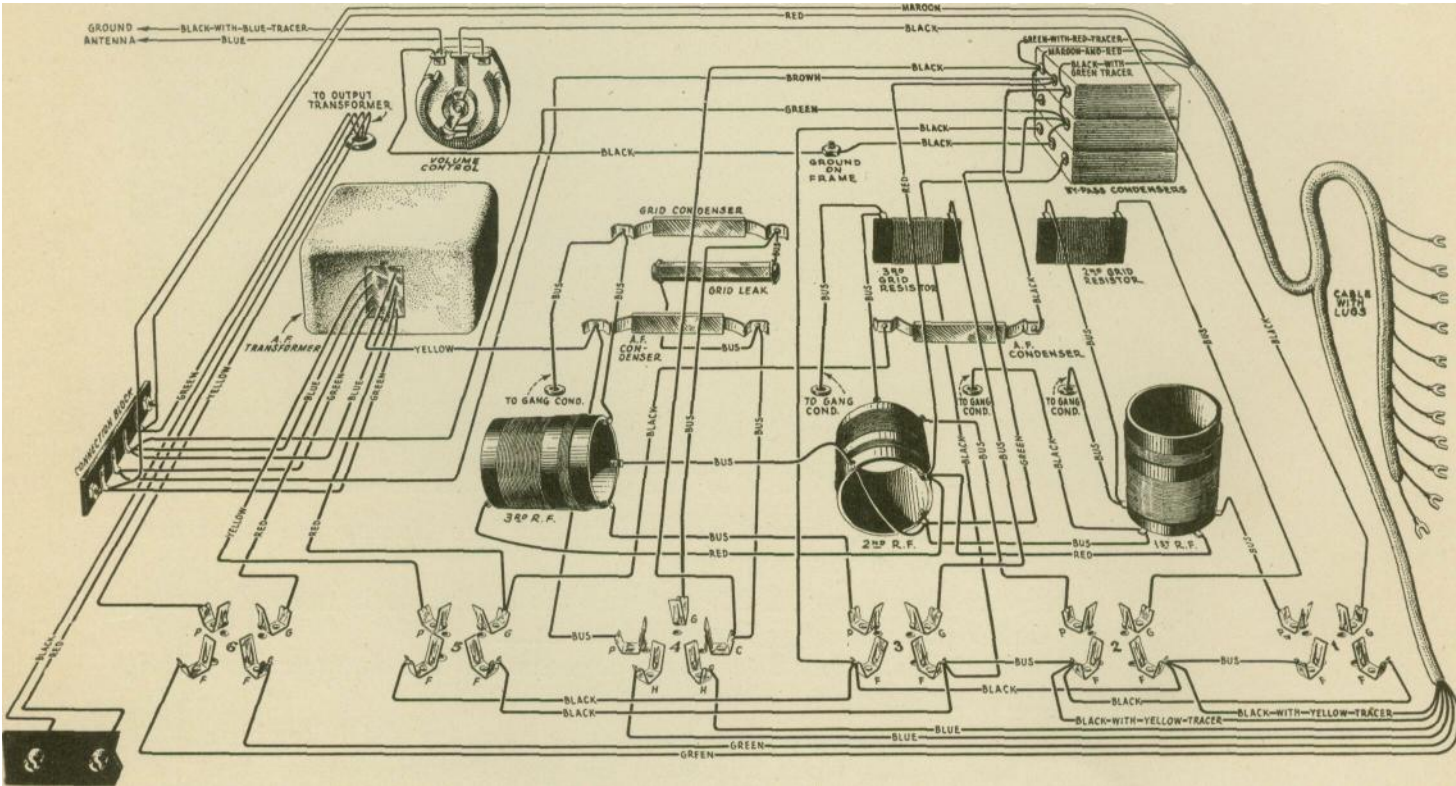
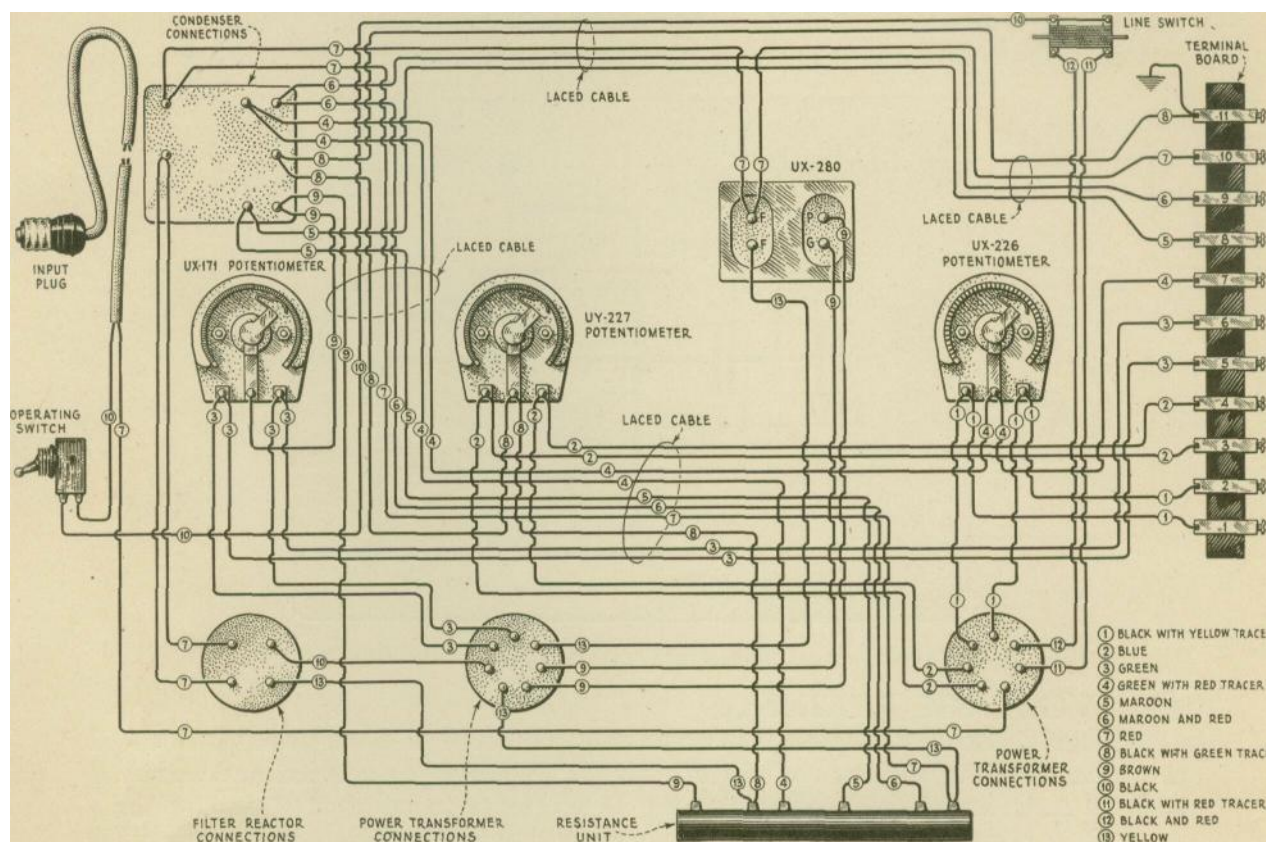

Figure 15—Wiring diagram of sub-chassis assembly showing color scheme and connections with relative location of parts.
Figure 16—Continuity wiring diagram of socket power wit and color scheme of wiring.
The following tests will show complete continuity for the Receiver Assembly (Figure 15) and the Socket Power (Figure 16). Disconnect the antenna and ground leads, the cable connecting the S. P. U. to the receiver assembly, and the A. C. supply cord at its outlet. Do not tamper with the main tuning condensers.
6. Tag and unsolder all leads to the volume control. The volume control may now be removed and the new one placed in position occupied by the old one. The connections should be placed on the new volume control as indicated on the tags attached to the wires or refer to Figure 15.